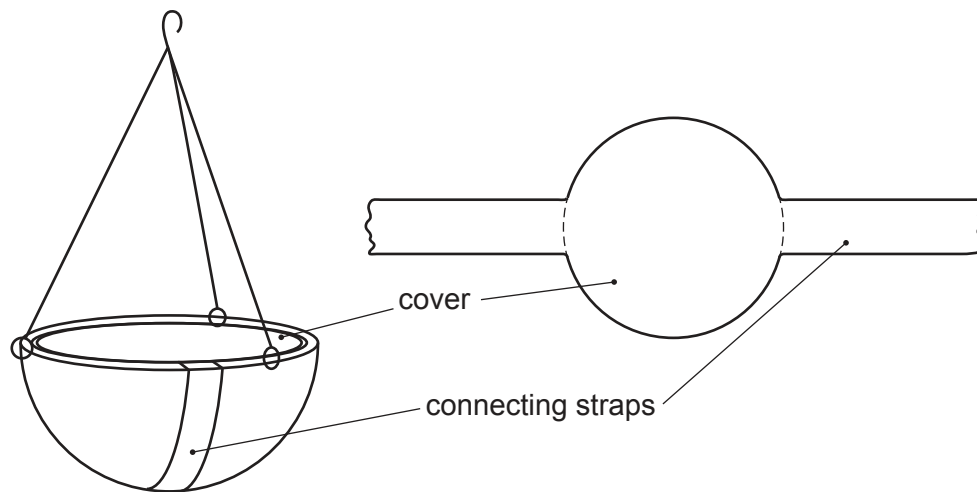

Fig. 9.1
- 9 Fig. 9.1 shows an incomplete idea for a cardboard cover that wraps around a hanging flower basket to protect and market the product.